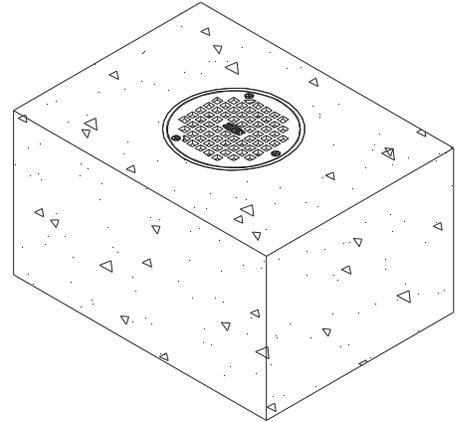

Fig. 11
9. Replace strainer and screws. Fig. 11.